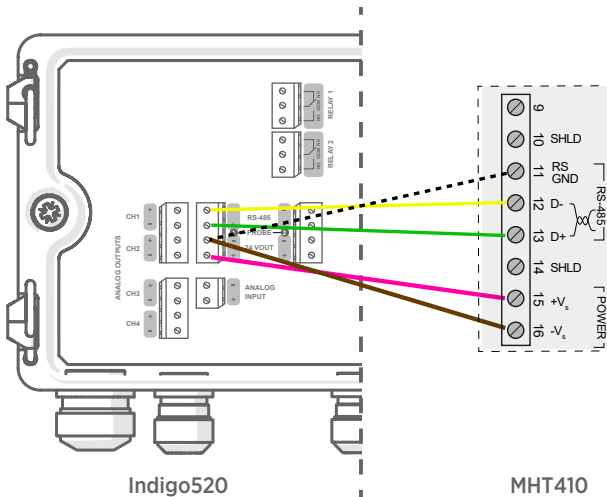

Figure 9 Wiring between Indigo520 and MHT410 screw terminals
- The cable has enough free wires to fulfill the wiring diagram as per Figure 9 \(page 83\). Any excess wires should be properly isolated.